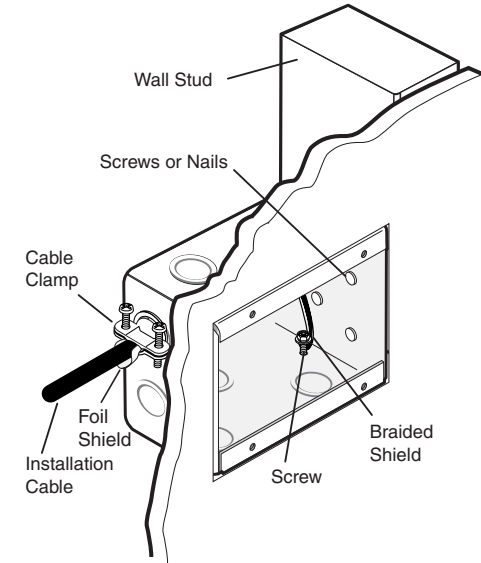

Figure 2-2 — Grounding outer braided and foil shields
6. Exposed cable shields (braids or foil) are potential sources of short circuits. Trim back and/or insulate shields with heat shrink (figure 2-2).